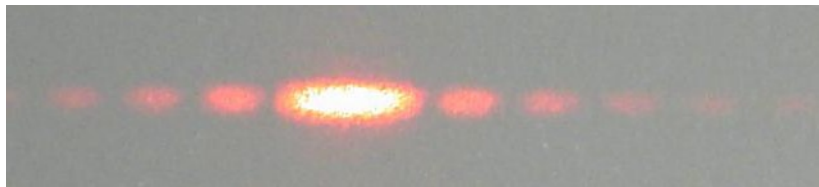

Figure 5 Fraunhofer diffraction pattern of a single slit
- 2) Place the adjustable slit on the X-translation carrier and put it behind the laser head on the rail. Put the white screen onto a carrier and place it at approximately 60 cm behind the slit. Once the slit is orientated vertically with a suitable width, a Fraunhofer diffraction pattern of the slit can be observed on the white screen as seen in Figure 5.